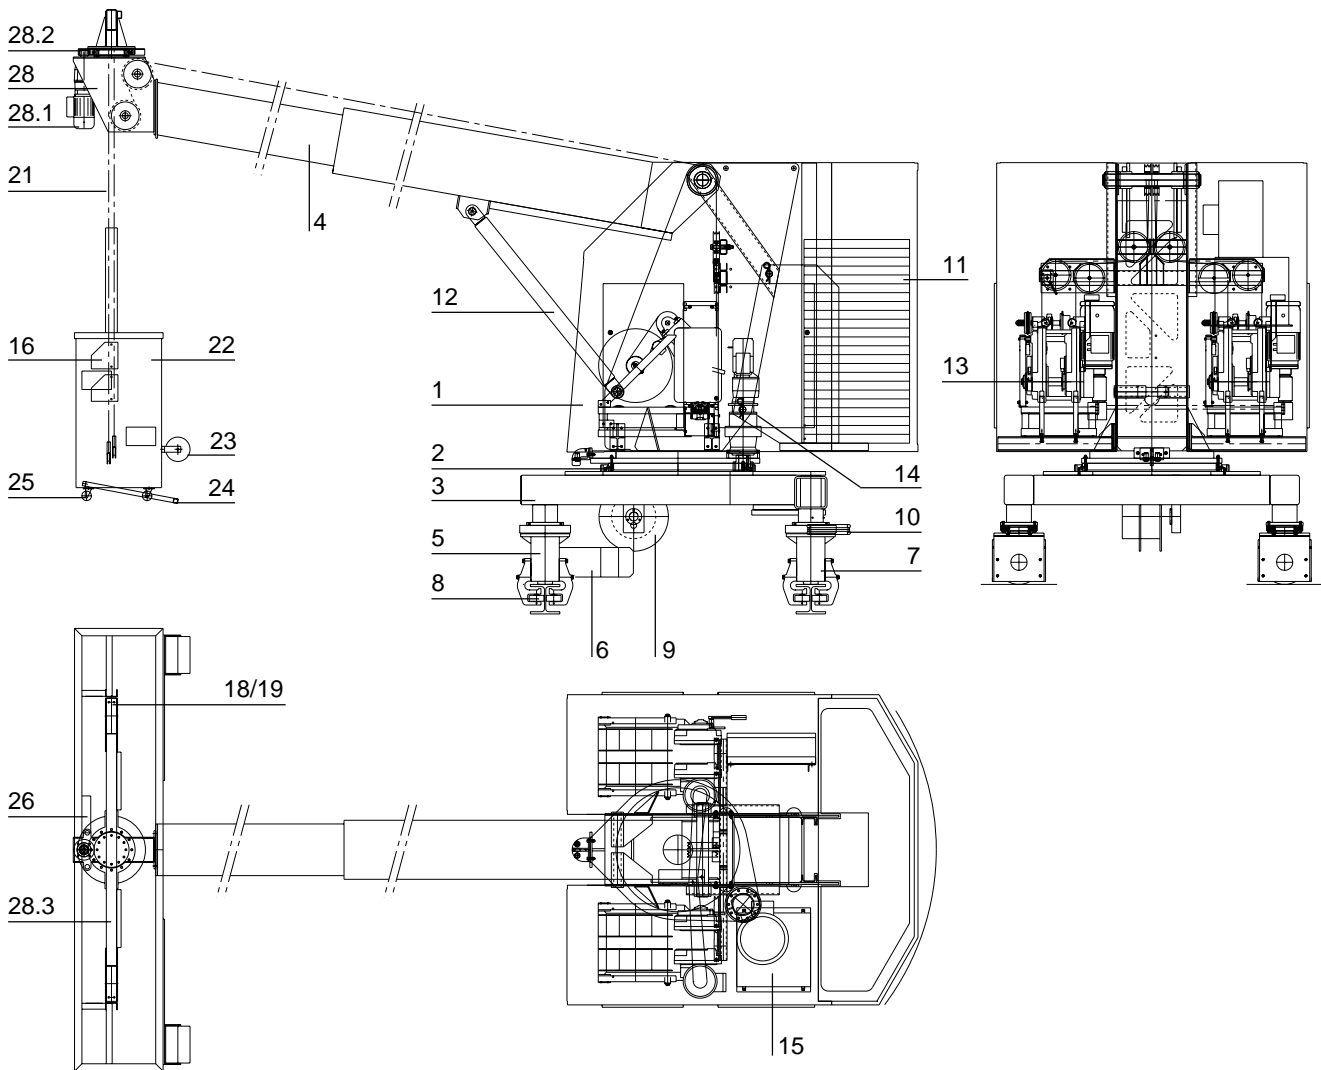

Fig. 3
5. MAIN COMPONENTS OF A SPECIAL SATURNE MACHINE Sa515B and Sa625B (see figure 3)